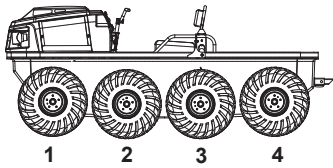

Figure 11-8. Marking the tire.
- b. Measure the circumference of each tire using a suitable tape measure, being sure to measure around the center-line of the tire. Figure 11-7. Write down the measurement on each tire. Figure 11-8.